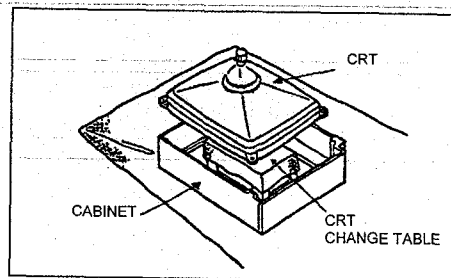

Fig. 5
- After 4 screws have been removed, put the cabinet slowly on cloth (At this time, be carefully so as not to damage the front surface of the cabinet) shown in Fig.5.